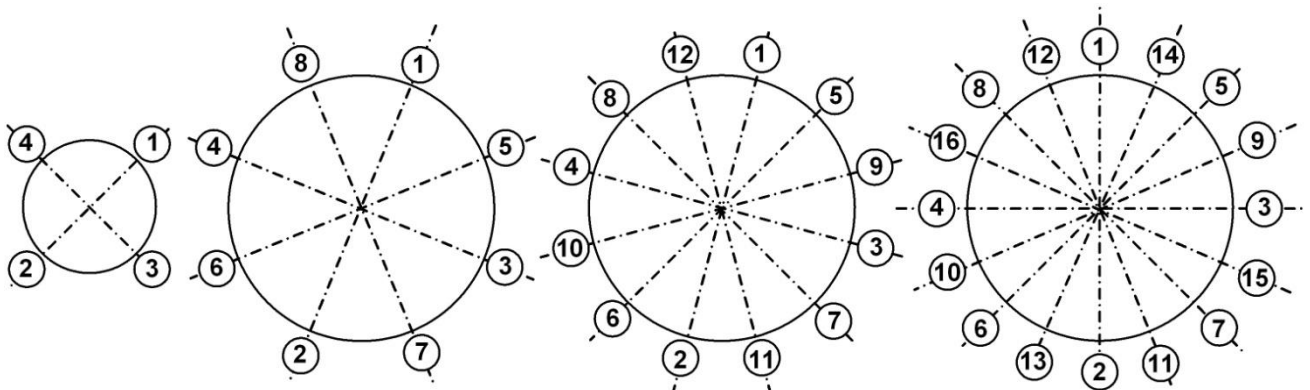

Fig.4. Order of tightening flange nuts.
3.2.6.5. When mounting PFC (Simulator) into the pipeline, tighten nuts in order specified in Fig.4 by a torque indicating wrench with maximum torque value that does not exceed the value specified in Table 2. **Exceeding of torque value may cause damage to PFC followed by leaking liquid into the flowmeter.**